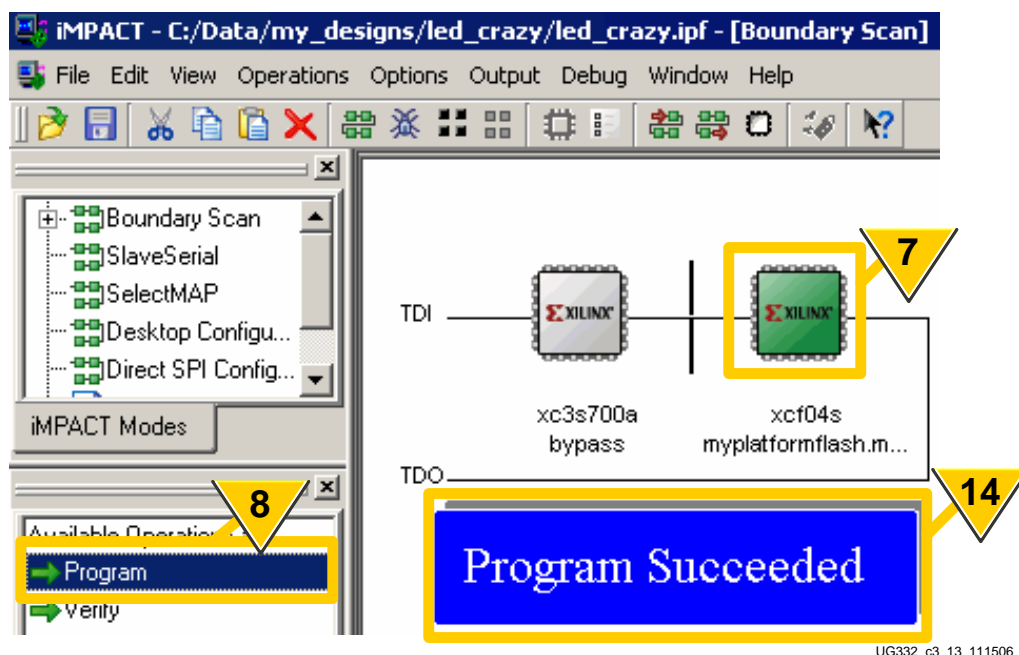

Figure 3-18: Program the Platform Flash PROM
7. As shown in Figure 3-18, the iMPACT software updates the screen image, showing the files to be loaded to each device in the JTAG chain. To program the Platform Flash PROM, first click to highlight the XCF04S PROM.
14. The iMPACT software indicates successful programming, as shown in Figure 3-18.